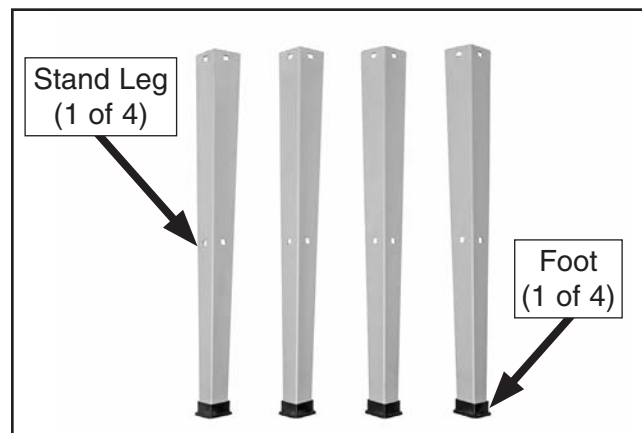

Figure 11. Rubber feet attached to stand legs.
1. Locate (4) stand legs (see **Figure 11**) and attach (1) rubber foot to bottom of each leg.